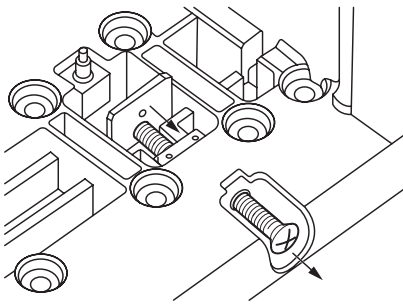

Figure 29
2. To blend a specific amount of hardness into the outflow, adjust the screw and test the water. Repeat the procedure as needed until the desired hardness level is reached (Figure 29).